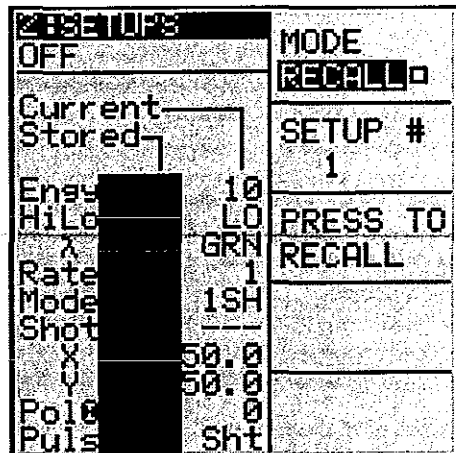

Figure 3-6: Setups Page
- 13) Carefully check the two o-rings on the resonator side plate, Figure 3-6. The o-rings seal the pump chamber against water leaks. Ensure that the o-rings are in place, before replacing the pump chamber in the resonator.